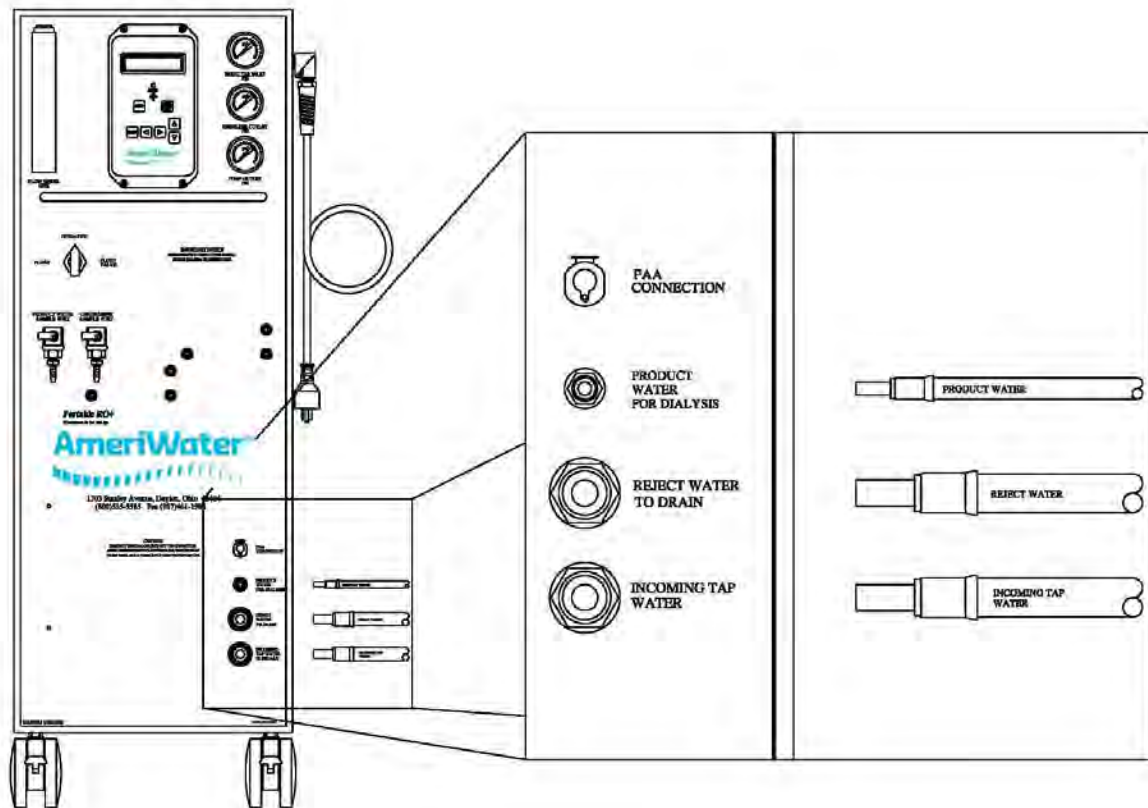

FIGURE 4.1
3. Connect the INCOMING TAP WATER, PRODUCT WATER, and REJECT WATER TO DRAIN hoses to the appropriate fittings on the RO+ front panel (see Figure 4.1).